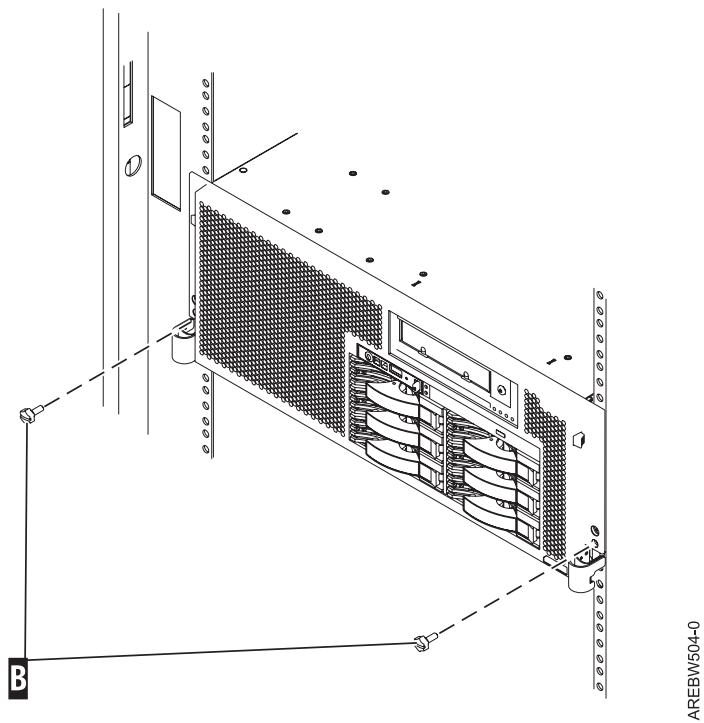

Figure 35. Secure system to rack through rack latches
11. Use the retaining screws to attach the rack latches to the rack as shown in Figure 35.